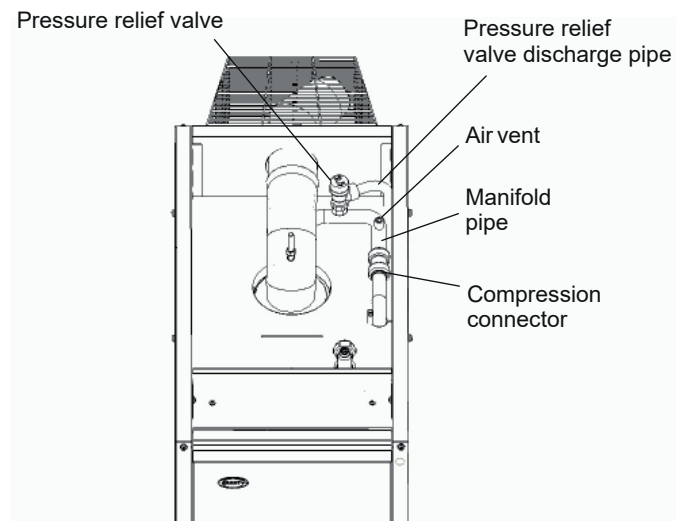

Figure 7-6: Vortex Module 15/21 with sealed system components fitted
11. Fit the pressure relief valve and onto the manifold pipe. Then fit the manifold pipe end into the 22 mm compression connector on the boiler flow pipe. Refer to Figure 7-6.